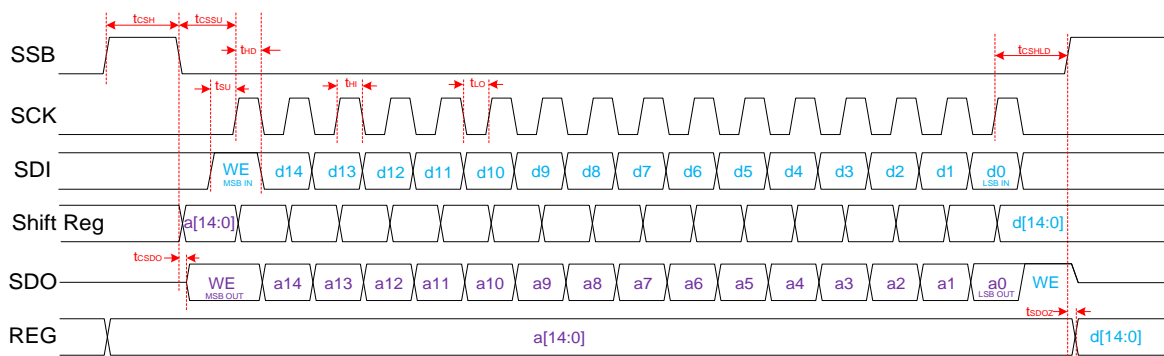

Figure 4. SPI Timing Diagram
SPI timing diagrams are provided in Figures 4 to 9. In SPI mode, data transmission starts when SSB goes Low, causing the Target to output the Most Significant Bit (MSB) of data to the SDO (MISO) pin. Data transfer from Host to Target takes place during the rising edge of the clock (SCK), which is idle when SSB is High. This mode of operation requires data for Host and Target to be present on SDI (MOSI) before the rising edge of the clock (defining SDI to SCK setup time). Data is pushed out of the SDO (MISO) pin during the falling edge of the clock. After the first 16-bit transaction, Host writes the latest data (DN) to Target, while Target passes its previous (DN-1) stored data to the Host. Data is latched into the internal registers at the rising edge of SSB, if WR_EN = 1.